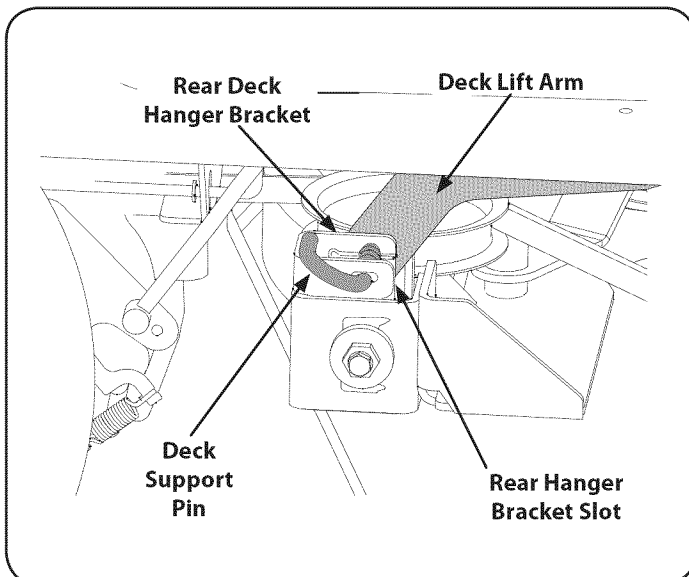

Figure 39
6. Locate the LH and RH deck support pins on each side of the deck. Pull the deck support pins outward and lock in the disengaged position to release the deck from the riding mower's LH and RH deck lift arms. Refer to Figure 39.
4. Maneuver the deck so that the slots in the two rear deck hanger brackets approximately align with the deck lift arms of the riding mower. Refer to Figure 39.
6. Pull the deck support pins outward and maneuver the deck as necessary to align the holes in the deck lift arms with the pins. Refer to Figure 39.